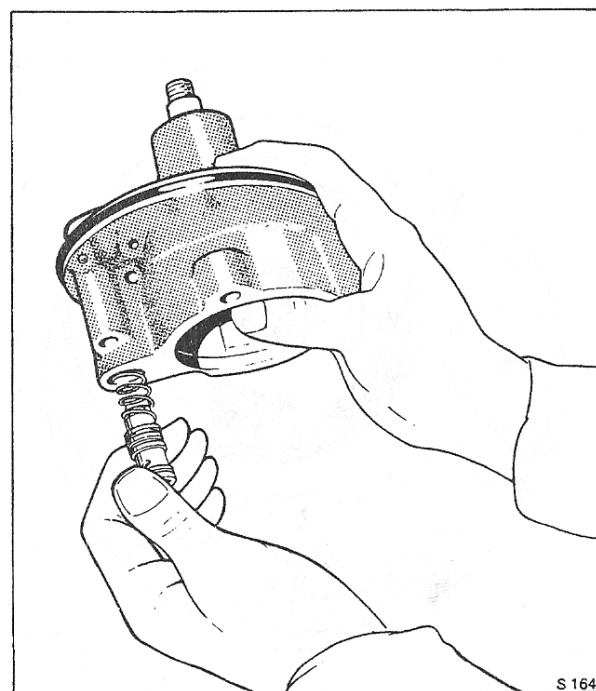

Fig. N18 Flow control/relief valve position
12. Remove the pump from the vice and invert. The flow control valve and spring will now drop into the hand (see Fig. N18). Place safely aside.
15. Fit the flow control valve and spring as shown in Figure N18.